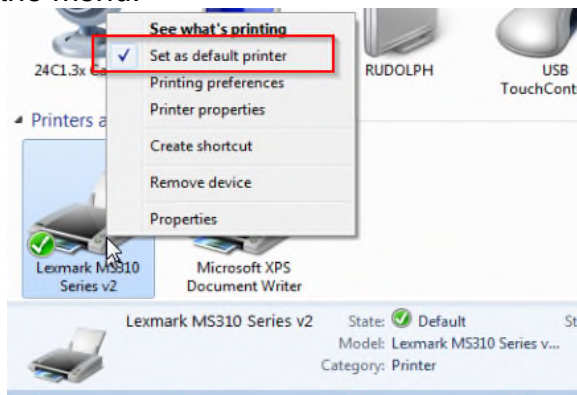

Figure 10.17 – Set default Printer
- 4) The Add Printer dialogue will start as shown below in Figure 10.17.
- 5) Select “**Add a local printer**”. (Figure 10.17)